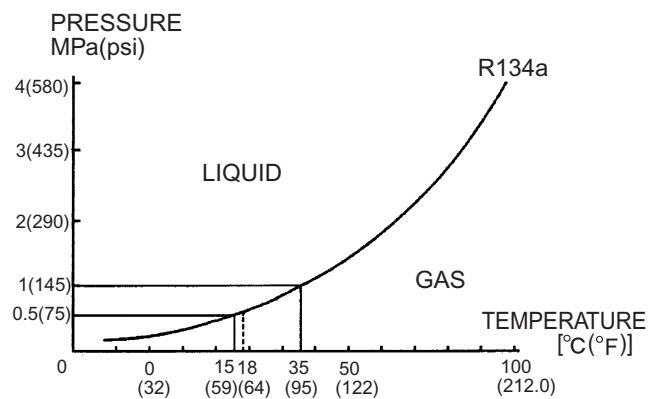

Fig. 25-7 Pressure-temperature characteristics of R134a
(3) Characteristics of Refrigerant (Fig. 25-7)
Fig. 25-7 illustrates the relationships between the saturation temperature and the saturation pressure in the case of refrigerant R134a used in the air-conditioner. At the temperature and the pressure on the lower righthand side of the curve in Fig. 25-7 the refrigerant take a gaseous state, while at the temperature and the pressure on the upper lefthand side of the curve, the refrigerant takes a liquid state.
Let us think of a case where an air-conditioner is operated in the midst of summer. As the refrigerant evaporates, it absorbs evaporation heat from the air of the compartment. In order to cool the inside of the compartment down to 25°C (77°F), the refrigerant must transform (evaporate) from a liquid to a gaseous state at a lower temperature. It can be seen from Fig. 25-7 that R134a under a pressure above the atmospheric pressure is capable of cooling the inside of the compartment sufficiently. (If a refrigerant that requires a pressure below the atmospheric pressure to cool it to a required temperature is used, air is mixed into the circuits, thereby deteriorating the performance of the cooling unit.) In the process in which gaseous refrigerant is brought back to a liquid state, the refrigerant is cooled and condensed by the outer air exceeding 35°C (95°F). Accordingly the refrigerant is capable of condensing at a pressure exceeding 1 MPa (145psi), as seen from Fig. 25-7.